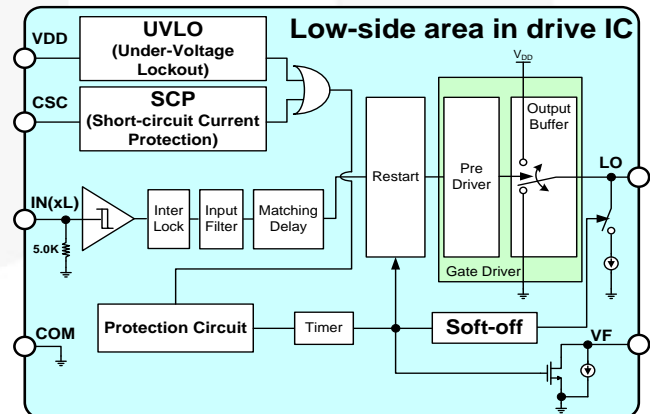
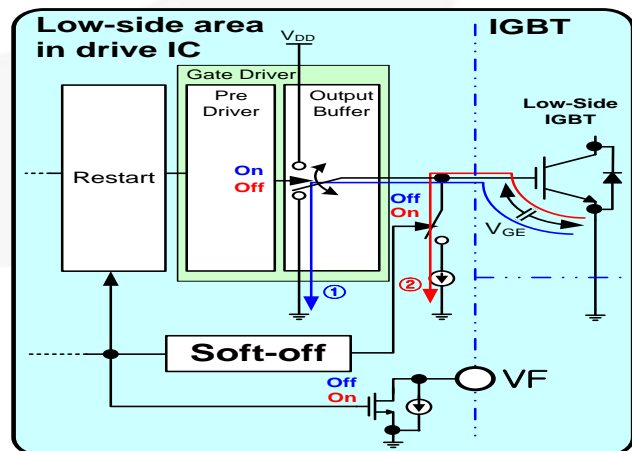

Figure 21. Internal Block Diagram of Gate Drive IC
Figure 22. Operating Sequence of Soft Turn-Off
An internal block diagram of low side and operation sequence of soft turn-off function are shown in Figure 21 and Figure 22. This function operates by two internal protection functions (UVLO and SCP). When the IGBT is turned off in normal conditions, gate drive IC turns off the IGBT immediately by turn-off gate signal ( $IN_{(xL)}$ ) via gate driver block. Pre-driver turn-on output buffer of gate driver block, path ①. When the IGBT is turned off by a protection function signal via output of protection circuit (disable output buffer, high-Z) and output of the protection circuit turn-on switch of the soft-off function.  $V_{GE}$  (IGBT gate-emitter voltage) is discharged slowly via circuit of soft-off (path ②).